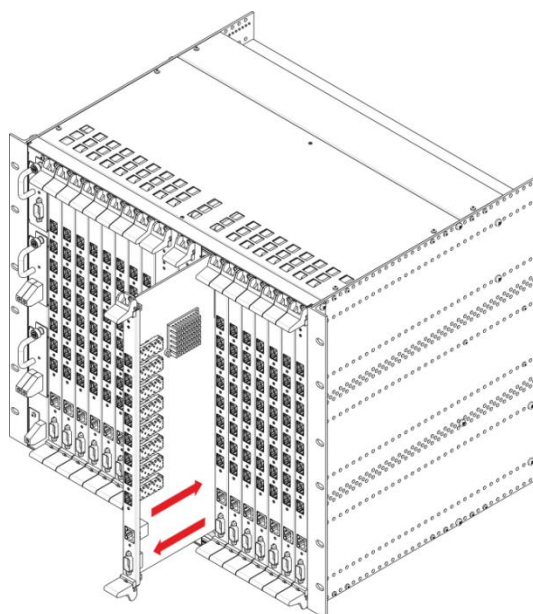

Fig. 45—Installing board into MA4000-PX
Step 5. Remove the screws located on the module ejectors. Push the bottom ejector down and pull the top ejector up. Pull out the module and remove it from the crate, Fig. 45.
Step 6. Install a new PP4X module in reversed order, Fig. 45.
After all modules has been installed into the rack, secure the connection with screws, see Fig. 45.
Step 3. Remove the screws located on the module ejectors. Push the bottom ejector down and pull the top ejector up. Pull out the module and remove it from the crate, Fig. 45.
Step 4. Install a new PLC8 module in reversed order, Fig. 45.
To prevent the board damage, install/remove boards to/from the crate carefully, do not apply any force. Do not allow the components of the board being installed to touch the board installed next to it. If the board meets resistance while sliding through the guides, remove the board and try to install it again. After all modules has been installed into the rack, secure the connection with screws, see Fig. 45.